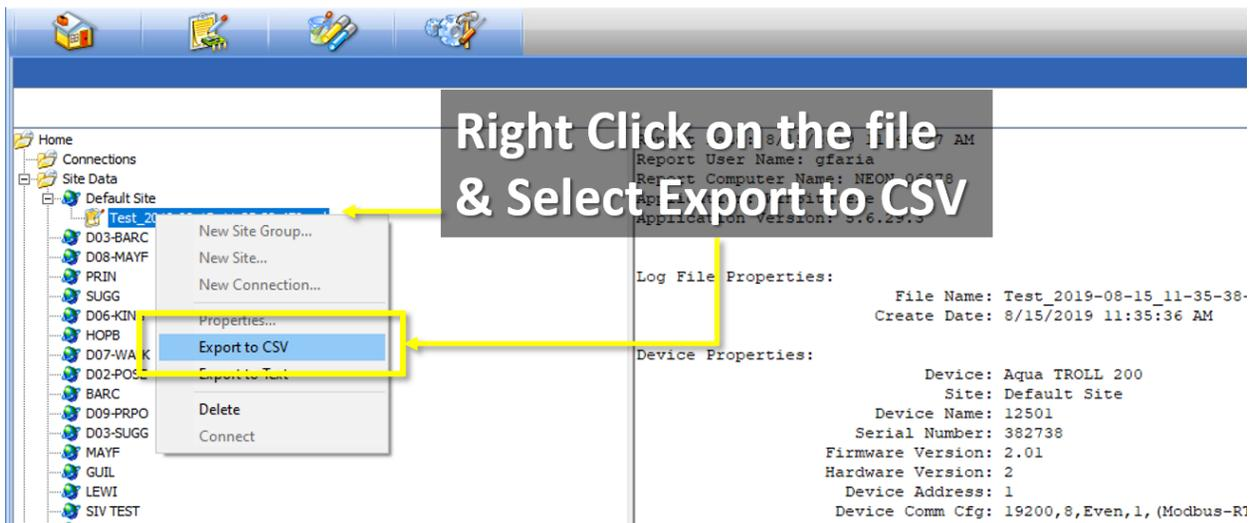
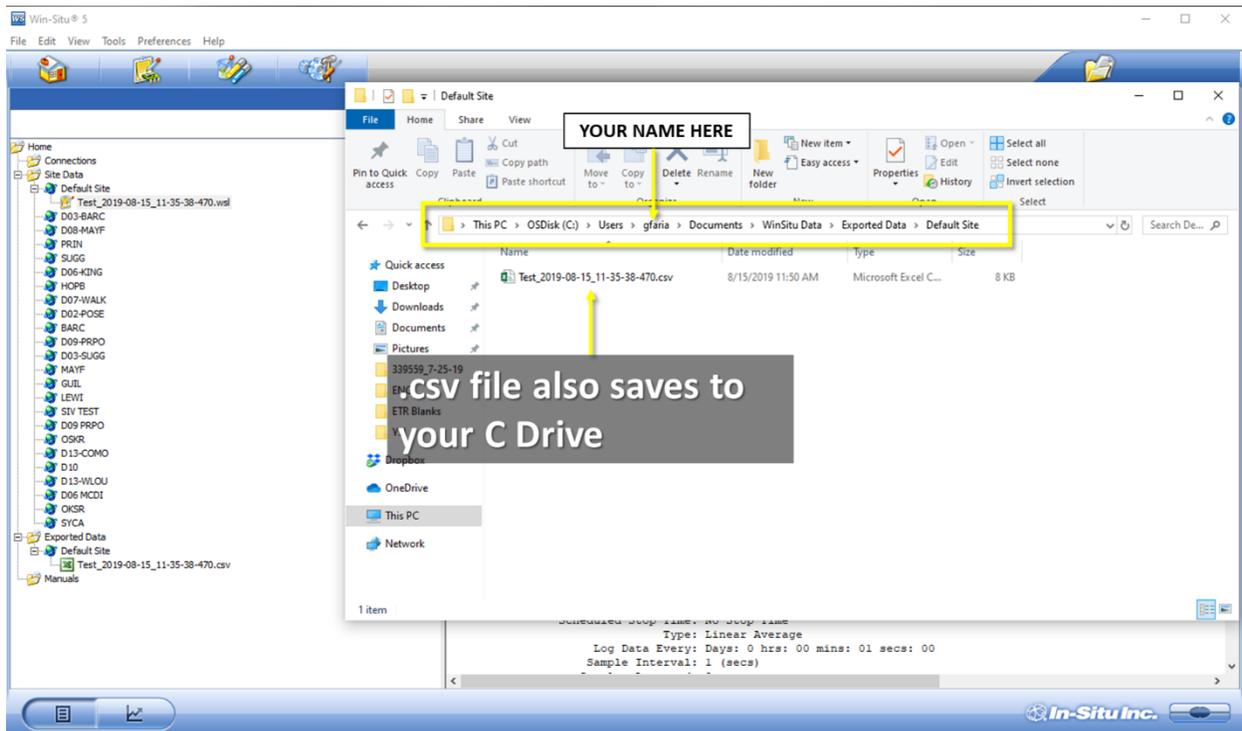

Figure 31. Right Click on the Data File & Select "Export to CSV" from the Dropdown Menu
Figure 32. The Data Saves under an "Exported Data" Folder on your C Drive
- In order to upload the data file, you need to turn it in a .csv (comma-separated values) file. Right click on the data file and click "Export to CSV" from the dropdown menu (Figure 31). This saves the data under an Exported Data folder on your C drive (Figure 32).